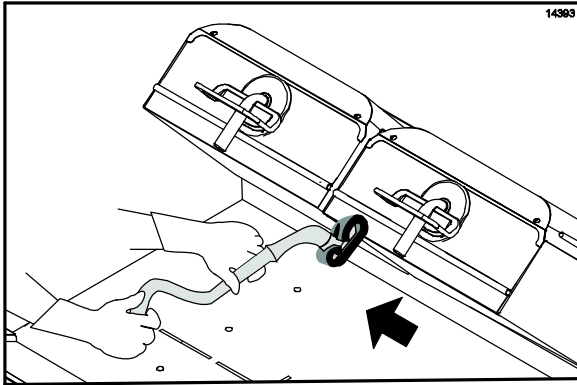

Figure 47
16. Apply **McD Hi-Temp Grill Cleaner (HTGC)** to the front side of the platens, starting from the right platen to the left platen. (See Figure 47.)